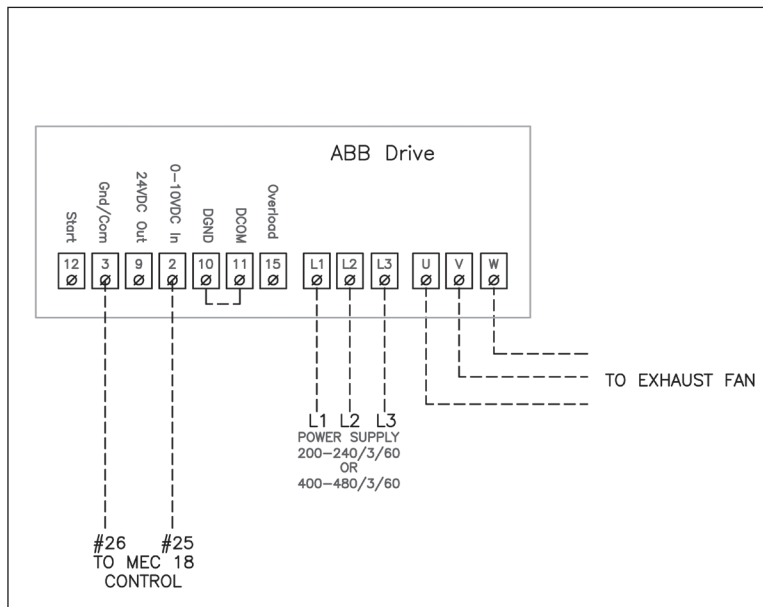

Fig. 10
- ♦ If using a 3-phase fan and VFD, connect the VFD to terminals 25 and 26 as shown in fig. 10 and 11
Wire the ABB ACS320 series variable frequency drive according to fig. 10.